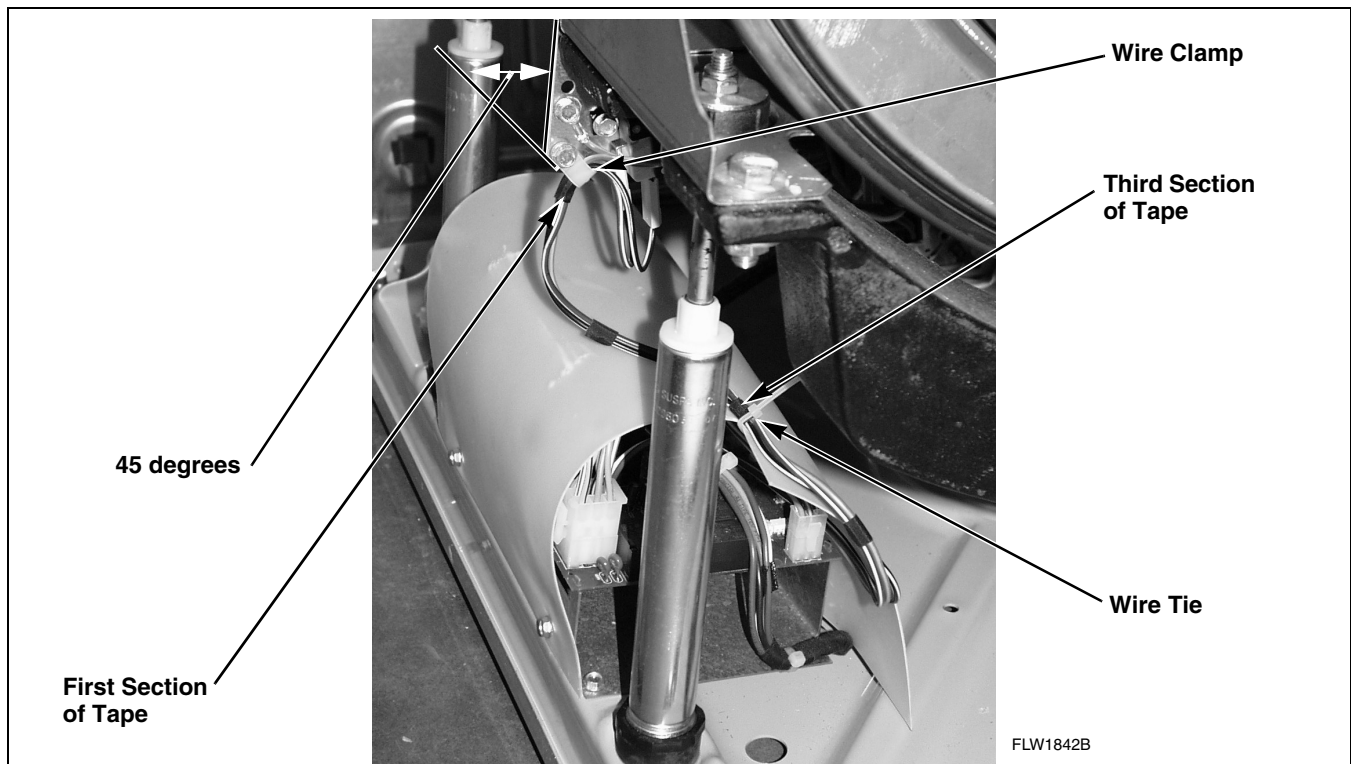

Figure 1
- f. After replacing or repairing the wire harness, secure the harness wires to the original factory locations. Refer to *Figure 1*.
- (1) The plastic wire clamp should be angled toward the switch at 45 degrees.
- (2) The clamp should wrap around the first section of tape on the harness.
- (3) The harness should be secured to the inverter control shield with a wire tie.
- (4) The tie should wrap around the third section of tape on the harness. Refer to *Figure 1*.